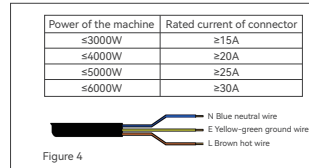

Figure 4
- a. Connect the power cord to the knife switch with grounding protection (electrodes shall not be connected incorrectly, connectors shall meet the corresponding power requirements, which shall be operated by professionals) (Figure 4);